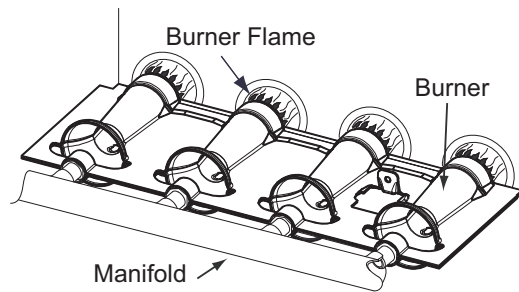

Fig. 58 - Burner Flame
8. Reverse items 6 through 1 for reassembly.
11. Check furnace operation through 2 complete heat operating cycles. Look at burners. Burner flames should be clear blue, almost transparent. See Fig. 58.